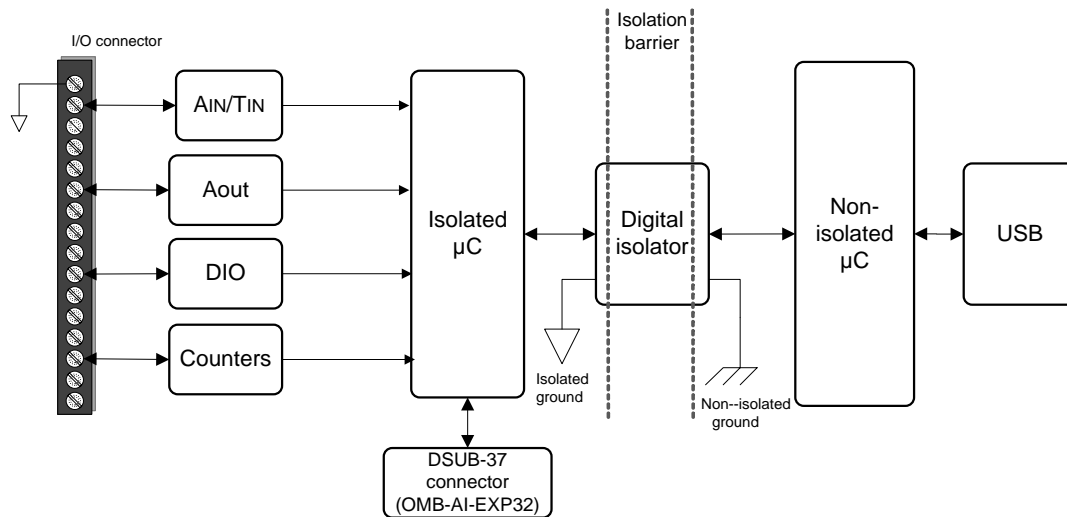

Figure 14. OMB-DAQ-2416-4AO input isolation diagram
- All analog measurements are made relative to the isolated ground. See Figure 14 for details.